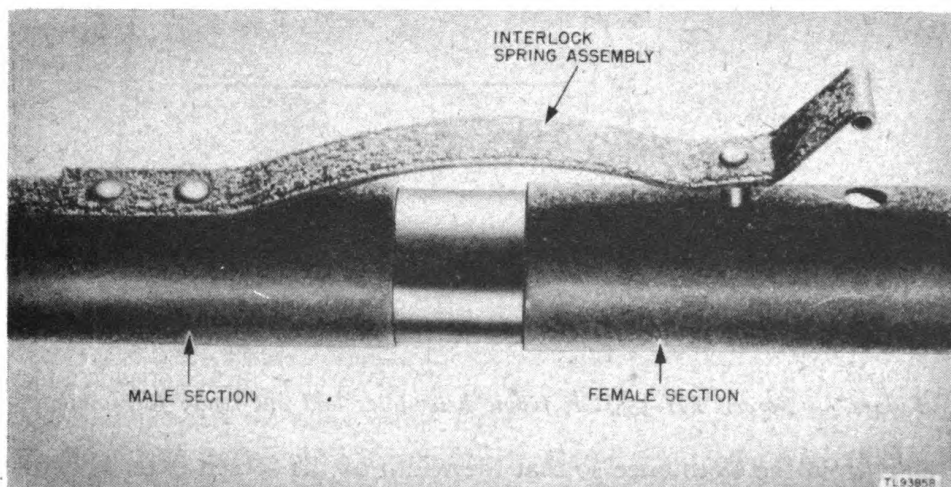
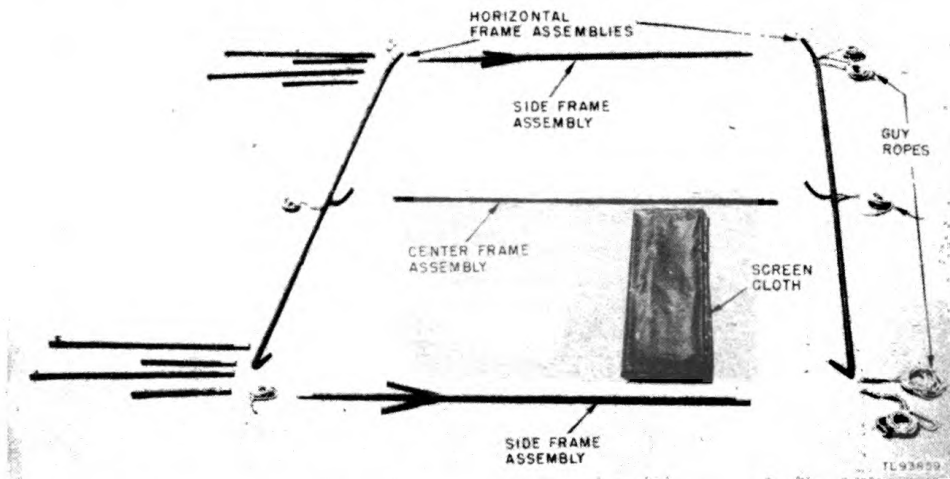

Figure 4. Male and female frame sections partially joined.
Figure 5. Screen PH-555/GF frame assemblies laid out ready for joining.
- b. Unfold the hinged sections and lock them. (See fig. 4.) When the hinged sections are extended and locked, lay them out on the ground. (See fig. 5.)